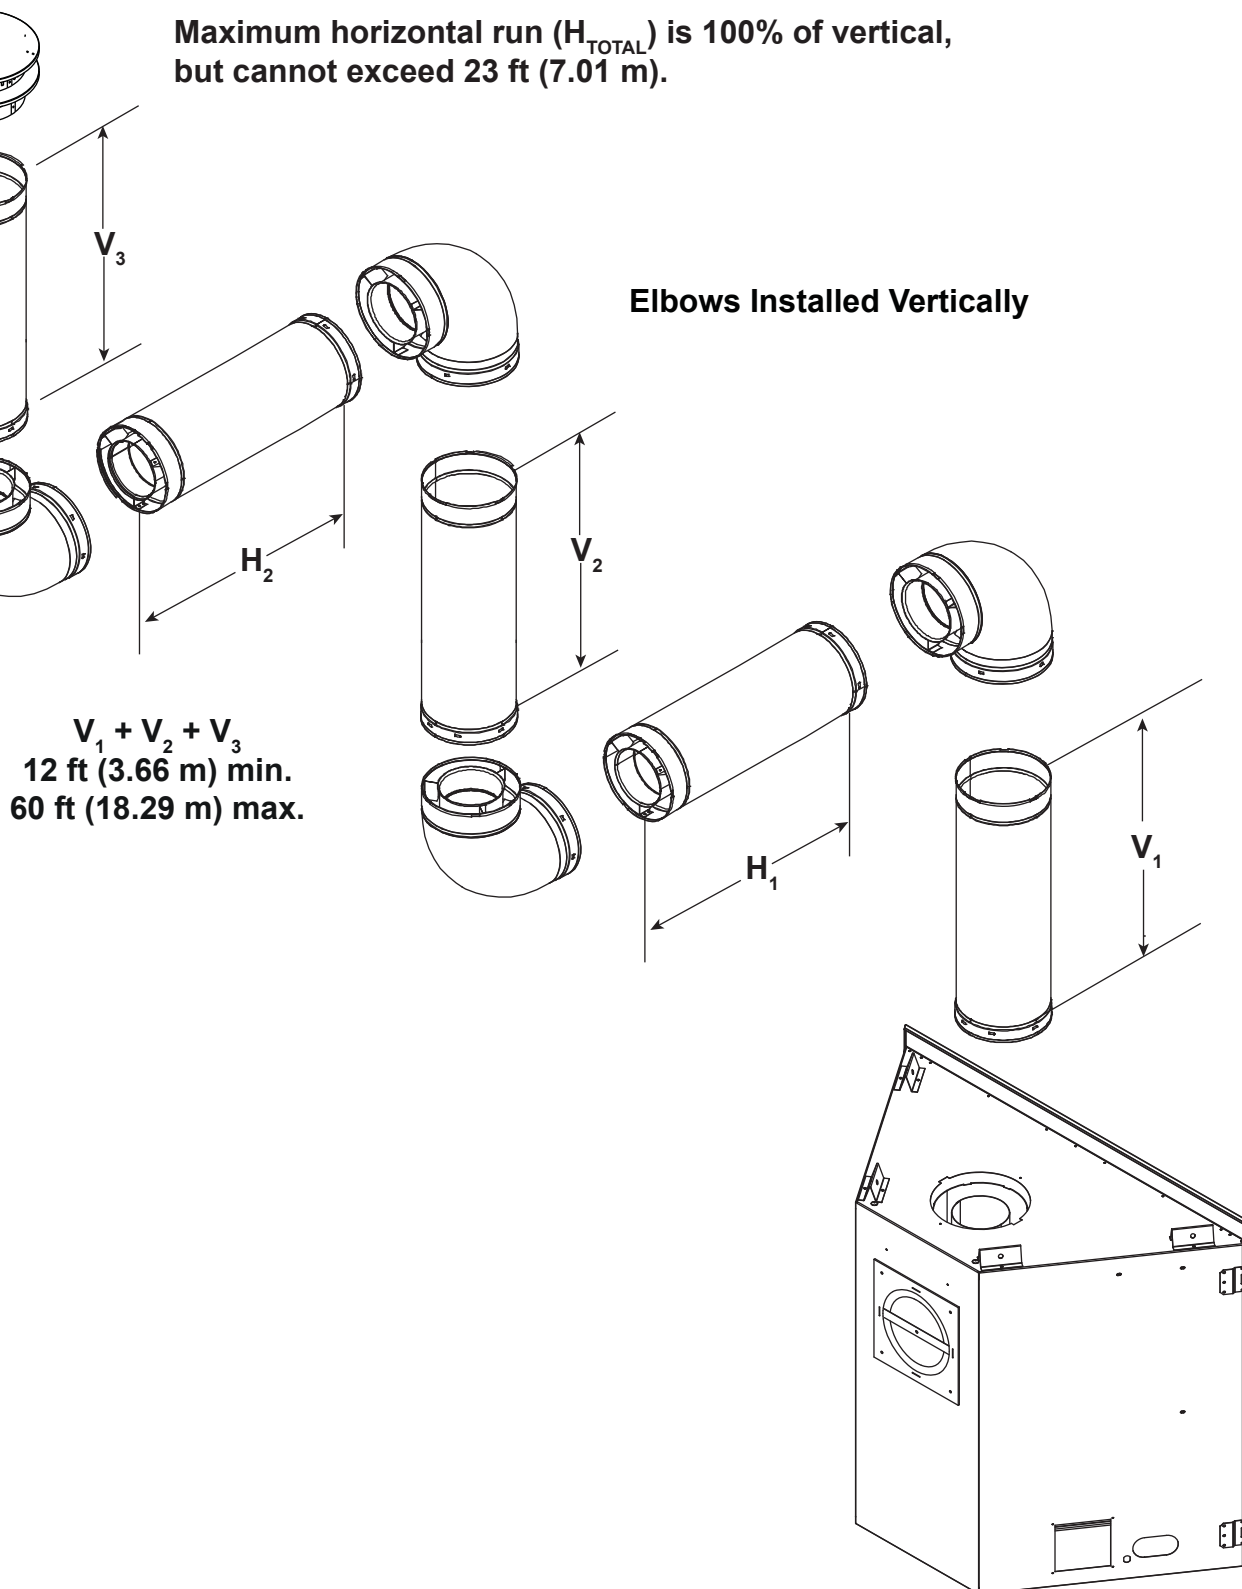

Figure 4.19
- A maximum of four 90° elbows (or eight 45° elbows) may be used in a top vented, vertically terminated vent configuration. See Figure 4.19.